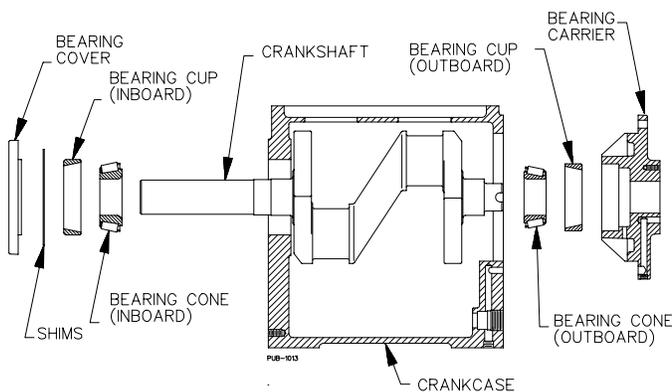

Figure 21 - Bearing Locations
- b. Referring to Figure 21 for the proper orientation, carefully press the inboard bearing cup into the crankcase until it is flush with the outer surface of the crankcase.